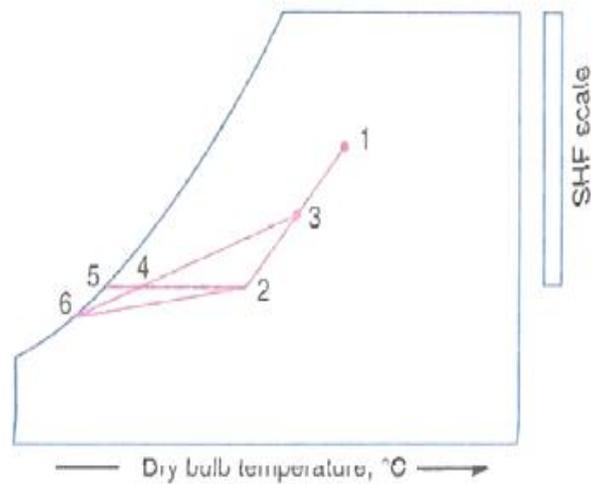

Fig. 18.37
10. In Fig. 18.37, line 2-6 is the effective room sensible heat factor (*ERSHF*) line, the line 2-5 is the room sensible heat factor (*RSHF*) line and the line 3-6 is the grand sensible heat factor (*GSHF*) line. Which of the following statements is correct ?